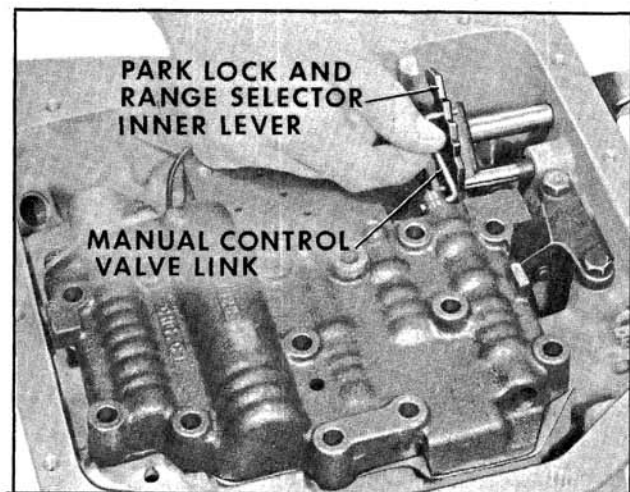

Fig. 6-356 Removing Inner Lever
8. Remove manual control valve link by rotating valve body in a counterclockwise direction to remove link from Park lock and range selector inner lever. (Fig. 6-356)